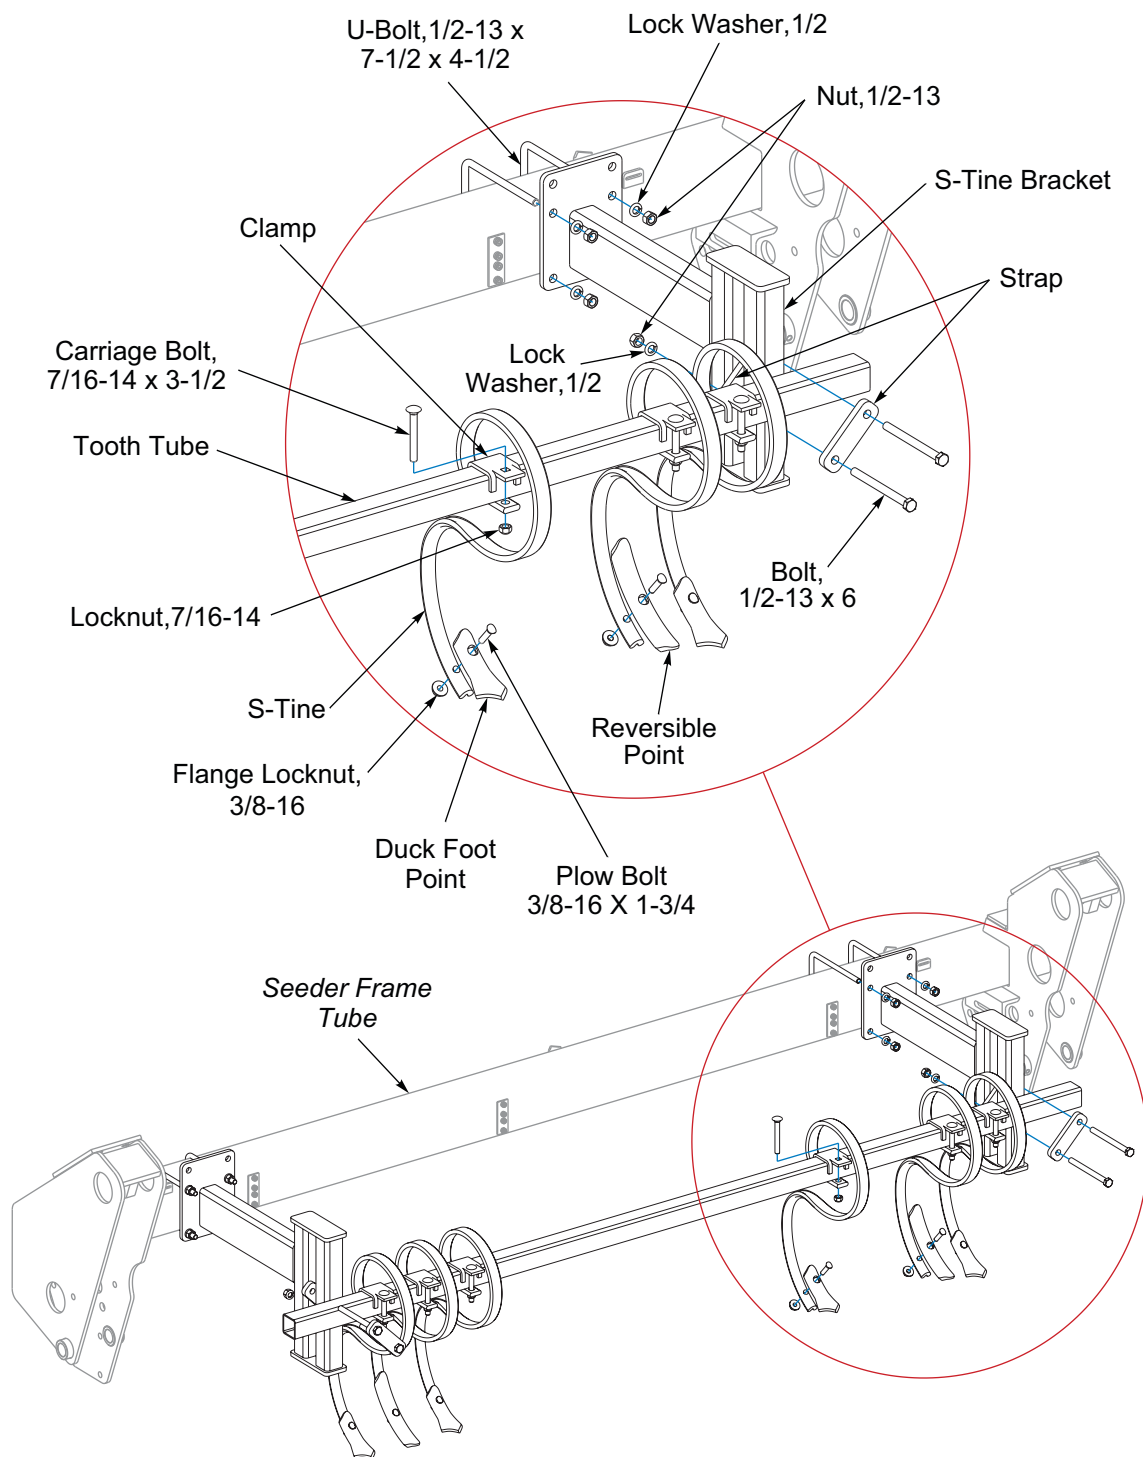
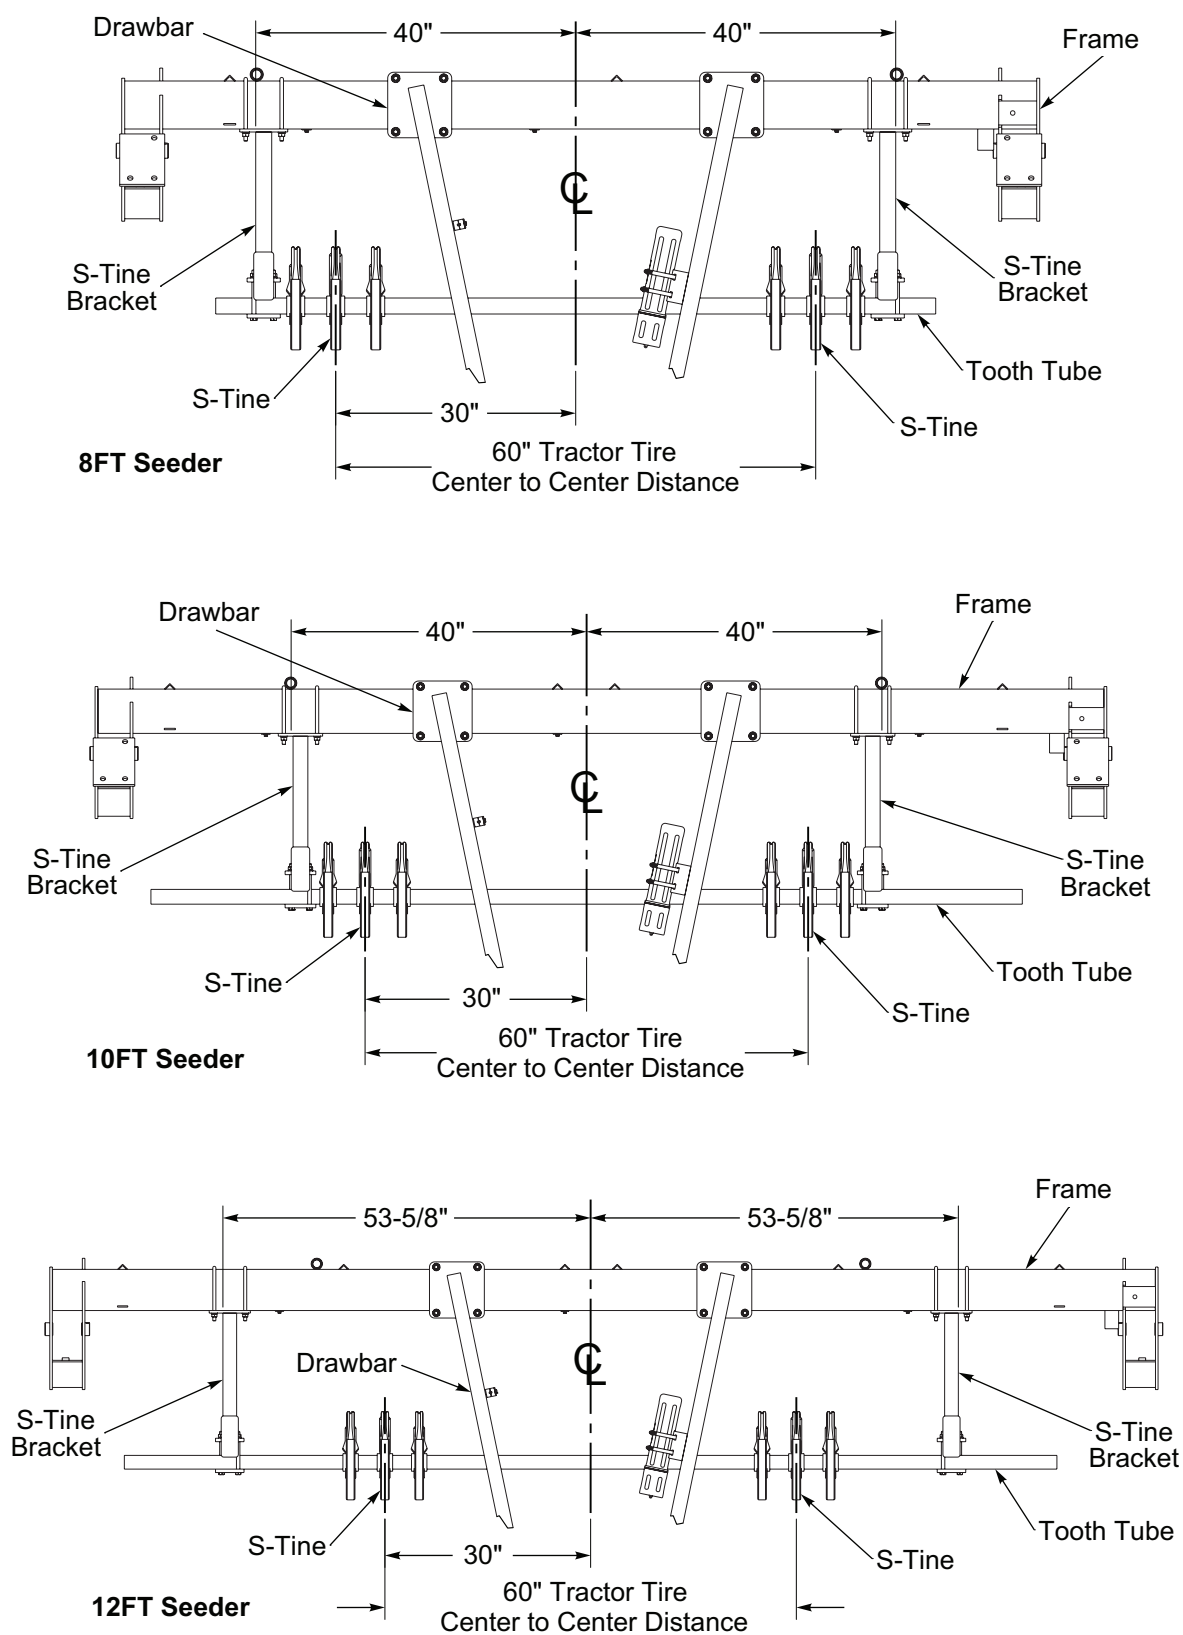

Figure 2-47: S-Tine Track Remover Kit - Optional
Figure 2-48: S-Tine Mounting Dimensions
*S-Tine Brackets and S-Tines should be positioned per application. Use **Figure 2-48** only as a reference.*
1. Center and position the S-Tine Brackets in relationship with the center of the Drawbar or 3-PT Hitch to the front of the Seeder Frame Tube. **See Figure 2-48.** Secure S-Tine Brackets to the Seeder Frame Tube with 1/2-13 x 7-1/2 x 4-1/2 U-Bolts, Lock Washers and Nuts. **See Figure 2-47.**